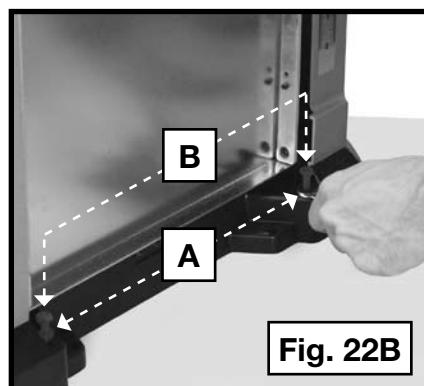

Fig. 22B
4. If your table needs adjustment, loosen the locknuts (A) Fig. 22B on the table height-adjustment screws (B). Adjust the screws up or down to achieve the desired table height.